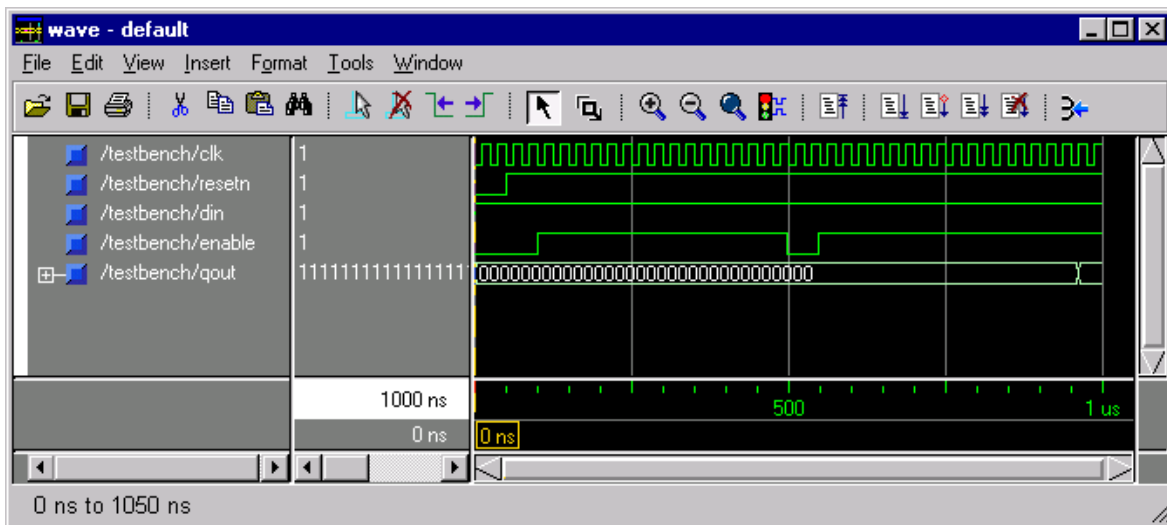

Figure 32 - ModelSim for Actel Wave window for top post-synthesis simulation
2. When the compilation completes, the simulator will run for 1 us and a Wave window will open to display the simulation results (Figure 32). Scroll in the wave window to verify the design functions properly.